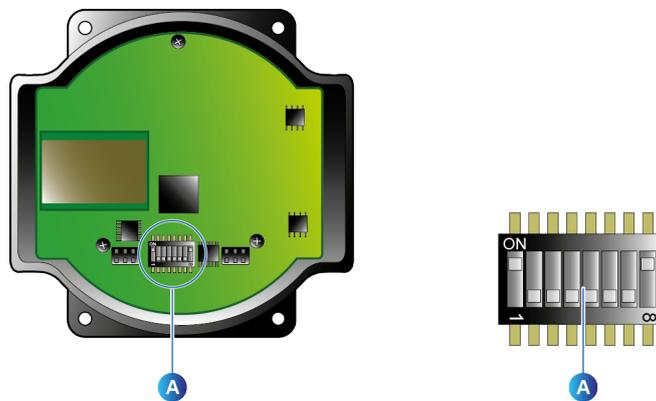

Figure 49: micro switch configuration on the *master receiver*.
- Position the microswitches as shown below (Figure 49, A) after opening the cover of the *master receiver*: